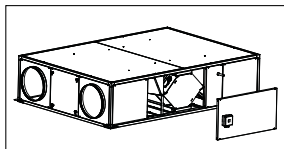

Fig. 1
2. Remove the side panel (fig.1).